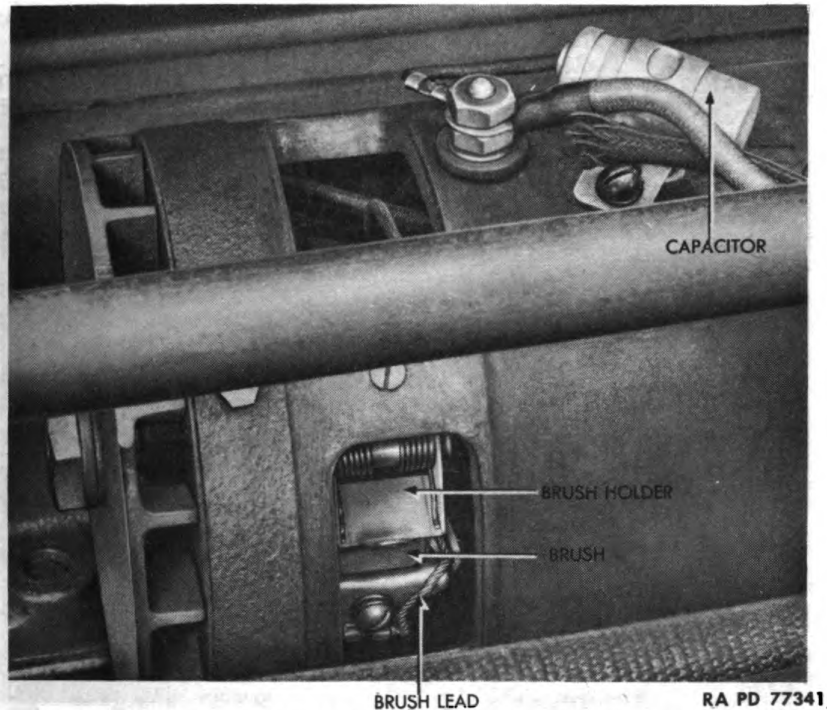

Figure 56 – Generator Brush Cover Removed
(1) **INSPECT GENERATOR** (fig. 56). Remove generator head band. Note condition of commutator. If dirty or discolored, clean com-
(3) **REPLACE BRUSHES** (fig. 56). Remove head band. Remove screw and lock washer which secure brush lead to brush holder. Lift up on brush holder lever and pull brush from holder. Raise lever and insert new brush into position in holder. Connect brush lead to holder with lock washer and screw provided for the purpose. Repeat the procedure to install other brushes. Install head band.